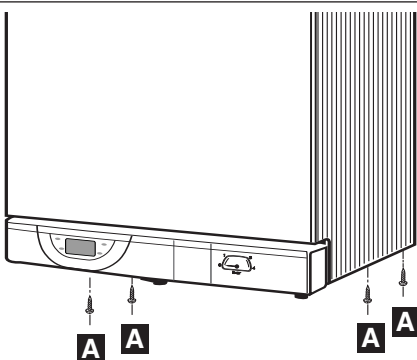

Fig.16
- Tighten the 4 screws located at the bottom as shown in fig. 16.